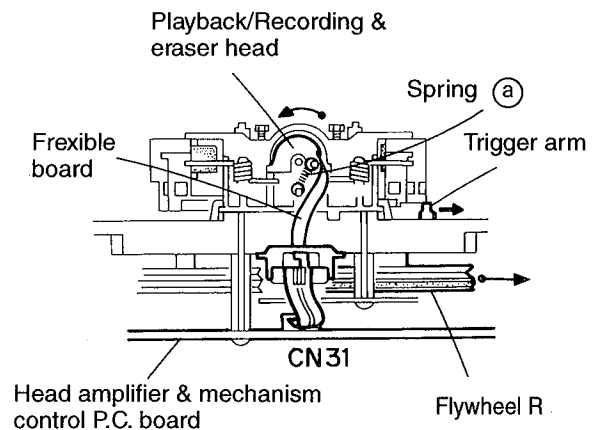
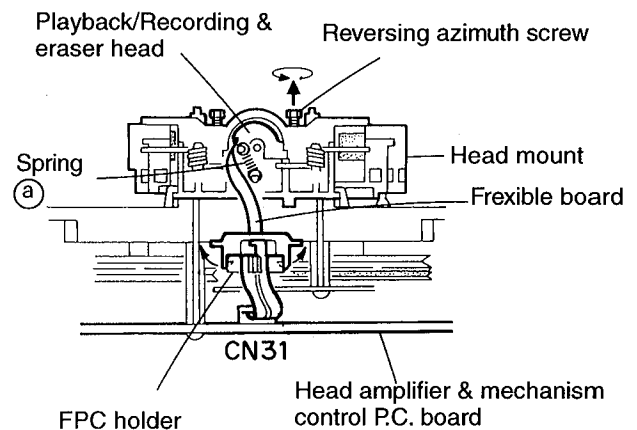

Fig. 5-20
Fig. 5-21
2. When the flywheel R is rotated in counterclockwise direction, the playback/Recording & eraser head will be turned in counterclockwise direction from the position in Fig. 5-20 to that in Fig. 5-21 .
1. Reassemble the playback head from the front of the head mount to the position as shown in Fig. 5-21.
4. Attach the flexible P.C. board to the chassis base, and fix it with the FPC holder as shown in Fig. 5-21.